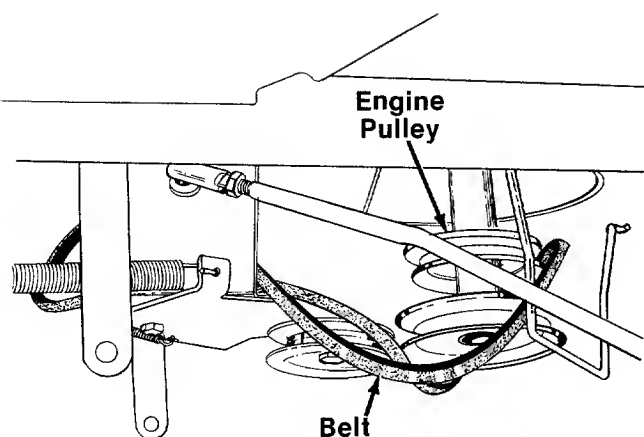

FIGURE 20.
6. Slip belt off the engine pulley. See figure 20.